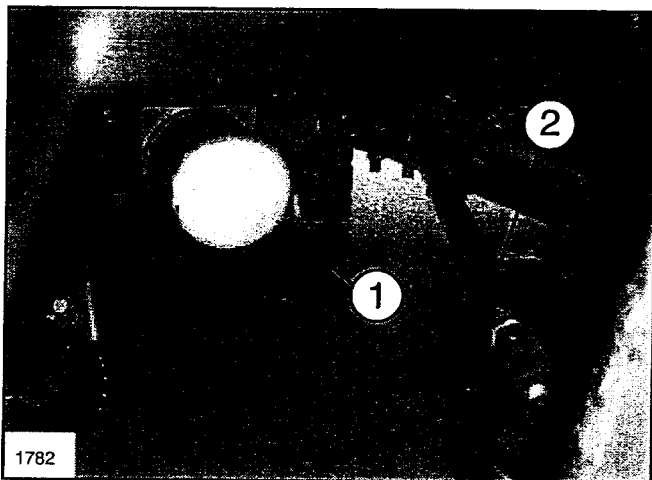

FIG. 16
3. Remove the old Filter (See FIG. 16) and wipe off the Filter Adaptor with a clean cloth.